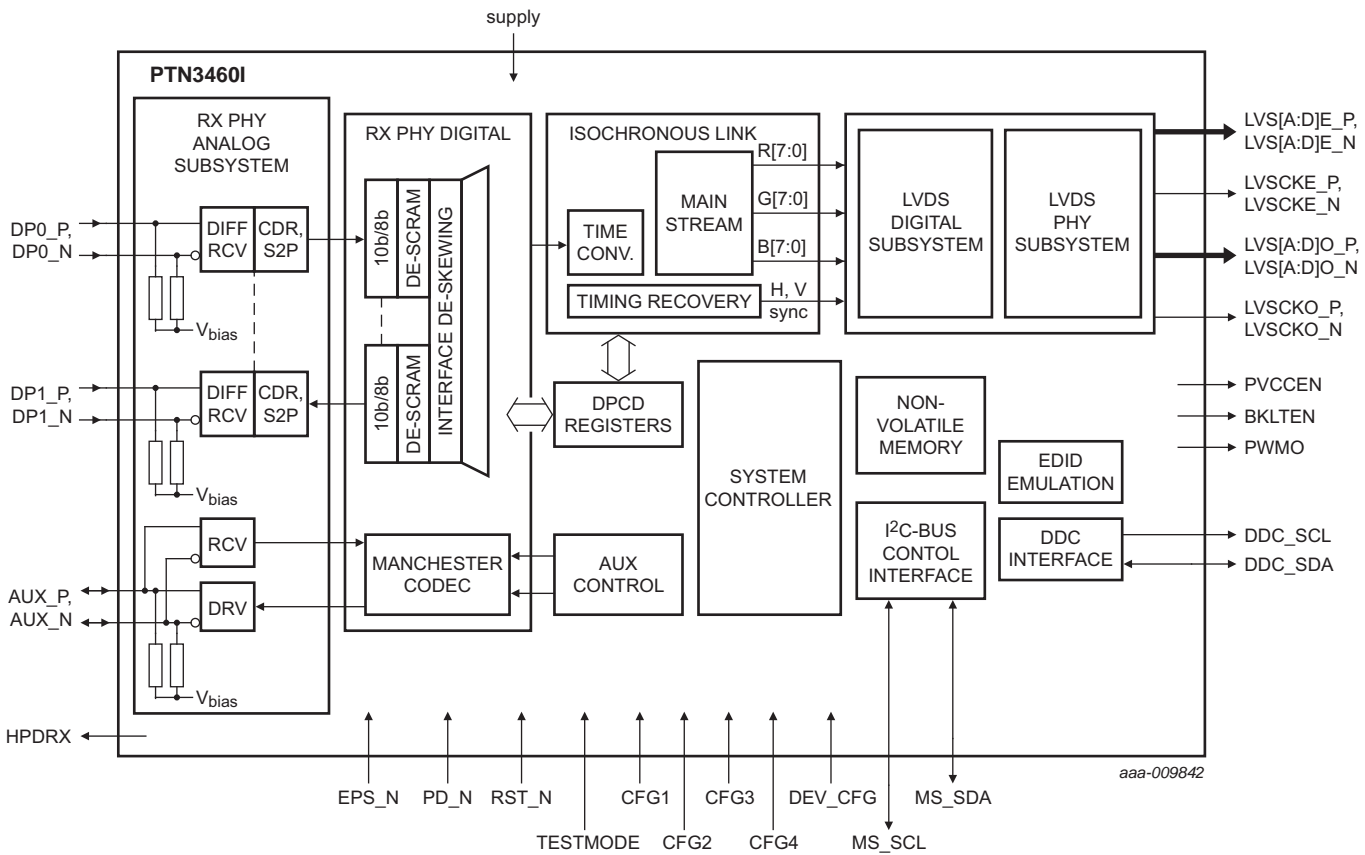

Fig 2. Block diagram of PTN34601
PTN3460I is an (Embedded) DisplayPort to LVDS bridge IC that processes the incoming DisplayPort (DP) stream, performs DP to LVDS protocol conversion and transmits processed stream in LVDS format. Refer to Figure 2 “Block diagram of PTN3460I”.